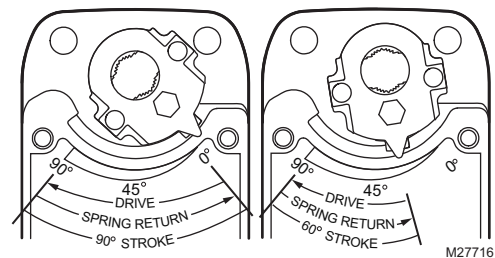

Fig. 5. Stroke reduction.
3. Rotate the coupling to the desired position, aligning it based on the stroke labeling. See Fig. 5.
EXAMPLE: Setting shaft coupling to an approximate fail-safe position of 35 degrees (as indicated on the housing) limits stroke to 60 degrees. (See Fig. 5)